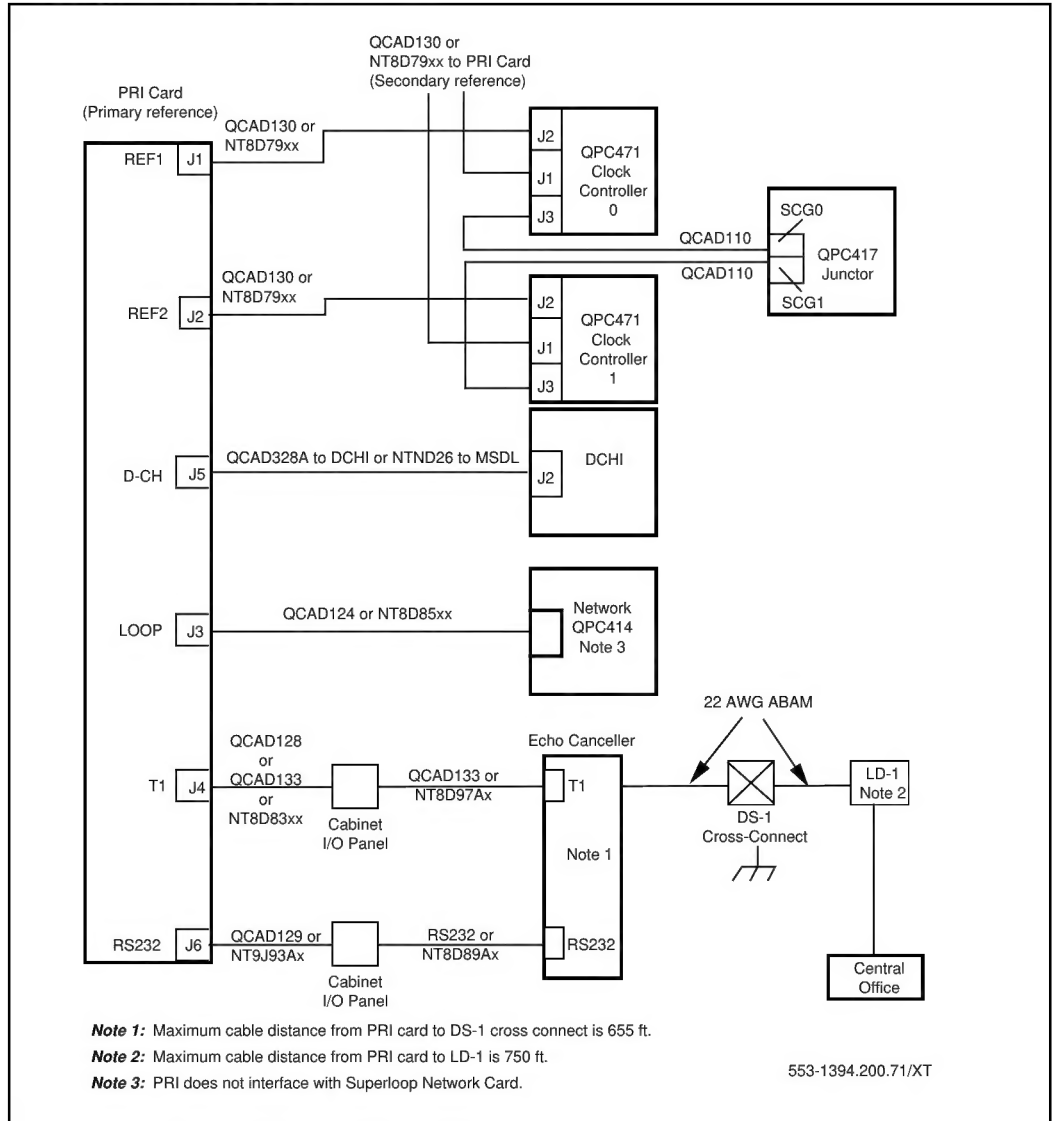

Figure 20
- 3 Set option switches on the PRI circuit card. See Figure 20 and Table 15.